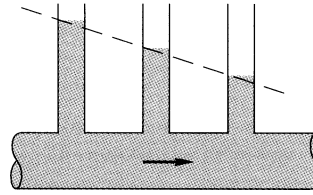

Fig. P10.4
**10.4** The water-channel flow in Fig. P10.4 has a free surface in three places. Does it qualify as an open-channel flow? Explain. What does the dashed line represent?